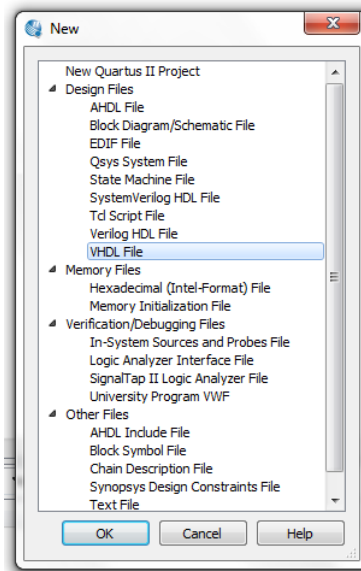

Figure 5: Create a new file menu
1. Goto **File** → **New** → **VHDL File** → **OK** as shown in figure 5